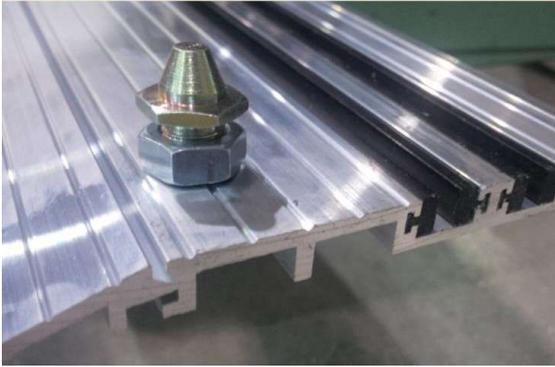

Figure 1
2. The side panel bottom pivot is installed in the threshold and can be adjusted for height (*Figure 1*). If the threshold filler is not installed, it can be tapped-in with a wood block and rubber mallet.
1. Remove panels from carton. Lift panel and place bottom pivot bushing (factory installed in bottom panel stile) onto the track pivot (*Figure 1*). Raise the top pivot pin in the header and place the panel into position. Push the pivot pin in the header down to engage the panel pivot bushing in the top of the panel stile (*Figure 2*).